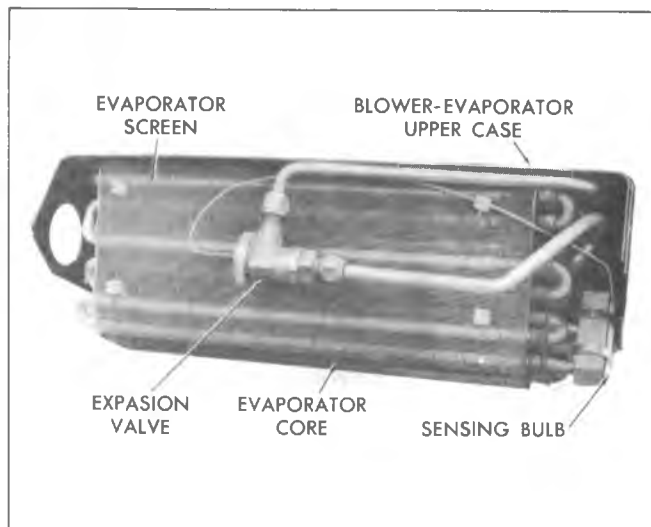

Fig. 51—Evaporator and Expansion Valve
This system incorporates an expansion valve which does not utilize an external equalizer line (fig. 51).
EVAPORATOR CORE (Fig. 51)
2. Install the expansion valve inlet and outlet lines using new "O" rings coated with clean refrigeration oil. Install the sensing bulb to the evaporator outlet line as shown in Figure 51, make sure the bulbs have good contact with the line.